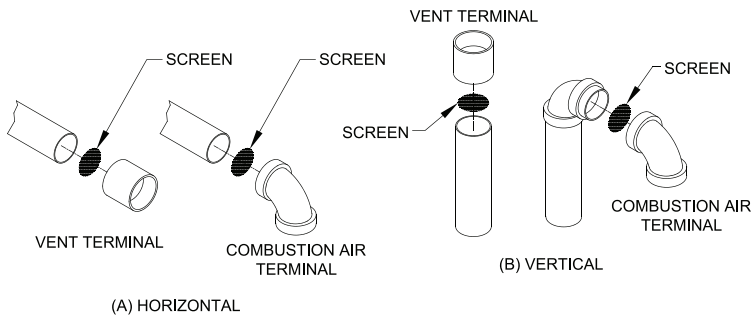

Figure 16: Screen Installation
- Install screen and vent terminal (supplied with boiler). See Figure 16 for appropriate configuration details.
- Install screen and combustion air terminal (supplied with boiler). See Figure 16 for appropriate configuration details.
- Install screen and vent terminal (supplied with boiler), see Figure 16 for appropriate configuration.
- Install screen and combustion air terminal (supplied with boiler). See Figure 16 for appropriate configuration.
- Install screen and vent terminal (supplied with boiler). See Figure 16 for appropriate configuration.
- b. Install screens per Figure 16. Remove gasket inside termination and install screen in place of gasket. If using Centrotherm InnoFlue end pipe, screen fits onto end of pipe.